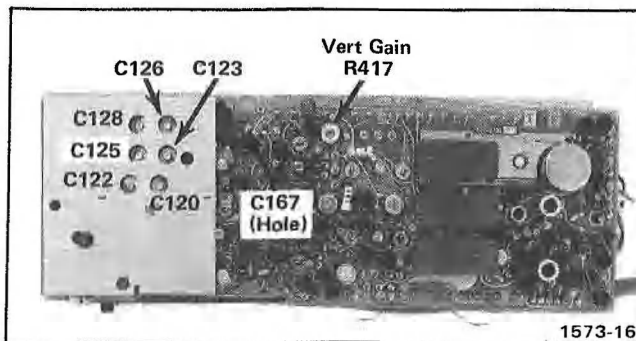
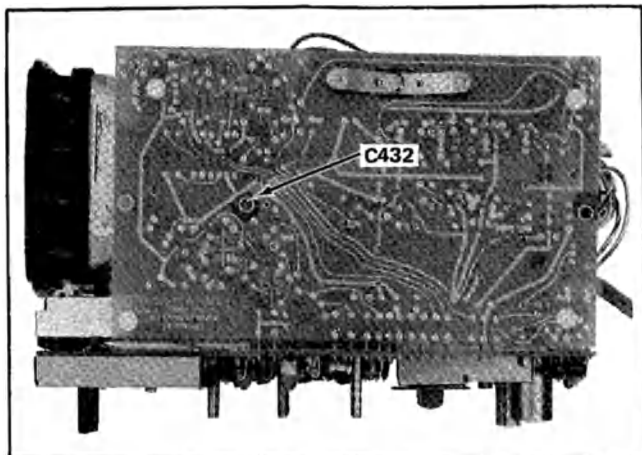

Fig. 5-6. Location of attenuator compensation and Vertical Gain adjustments.
Fig. 5-7. Location of Bandwidth response adjustment.
- a. Set the VOLTS/DIV switch to .2 and, set the SEC/DIV switch to .1 m. See Fig. 5-6 for location of attenuator adjustments.
- g. Adjust R417 for a display of four divisions within 2%. See Fig. 5-6.
- g. Adjust C432 (Bandwidth response) for the fastest rise time. See Fig. 5-7.
- i. Adjust C167 for a flat top with minimum aberrations (a slight readjustment of the C432 might be necessary for a flat top with no overshoot). See Fig. 5-6 and Fig. 5-7.